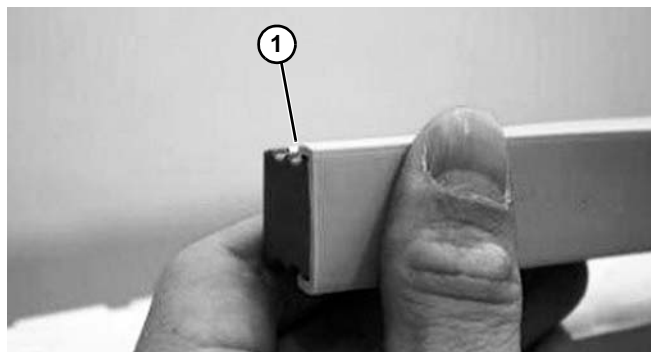

Figure 102
2. Make sure that all cover joints (**Figure 102, item 1**) are smooth, so that products do not get caught or damaged. Covers are not required on guide rail joints.